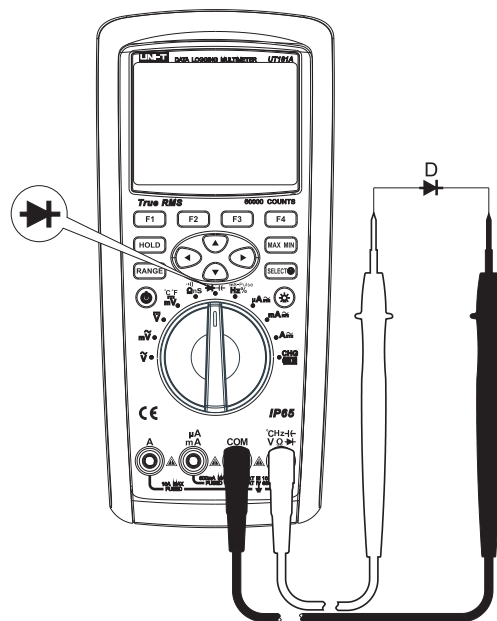

Figure 10
- 2) Set the rotary switch to the measurement  $\rightarrow$   $\leftarrow$  and the diode measuring mode  $\rightarrow$  is default. Connect the test leads to both ends of the measured diode as shown in Figure 10. Directly read the approximate forward PN junction voltage of the measured diode on the display.